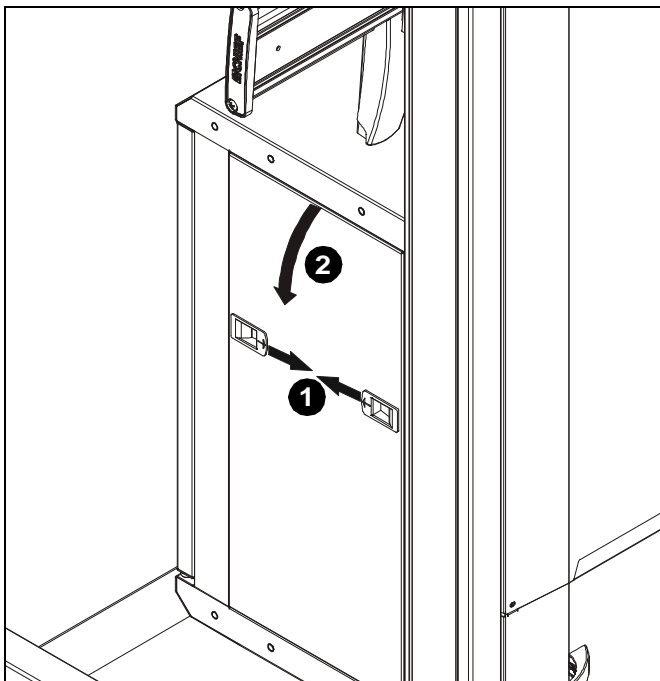

Figure 25
1. Push two buckles inside toward each other. (See Figure 25)
2. Pull door open from the top. (See Figure 25)